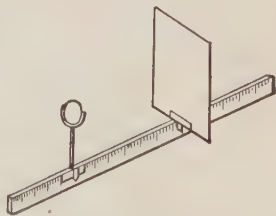

FIGURE 605. — LENS AND SCREEN FOR FINDING PRINCIPAL FOCUS.
**EXPERIMENT 148.** — Mount a lens on a meter stick, and on the side of the lens away from a window, mount a card to serve as a screen (Figure 605). Select some object, as a chimney or a tree, that is sharply defined and more than 100 feet away. Light from this object may be considered to have a plane wave front at the lens, and, if the lens is held at right angles to the advancing light, the light will move parallel to the principal axis of the lens. Move the screen back and forth until the clearest image is seen upon the screen.